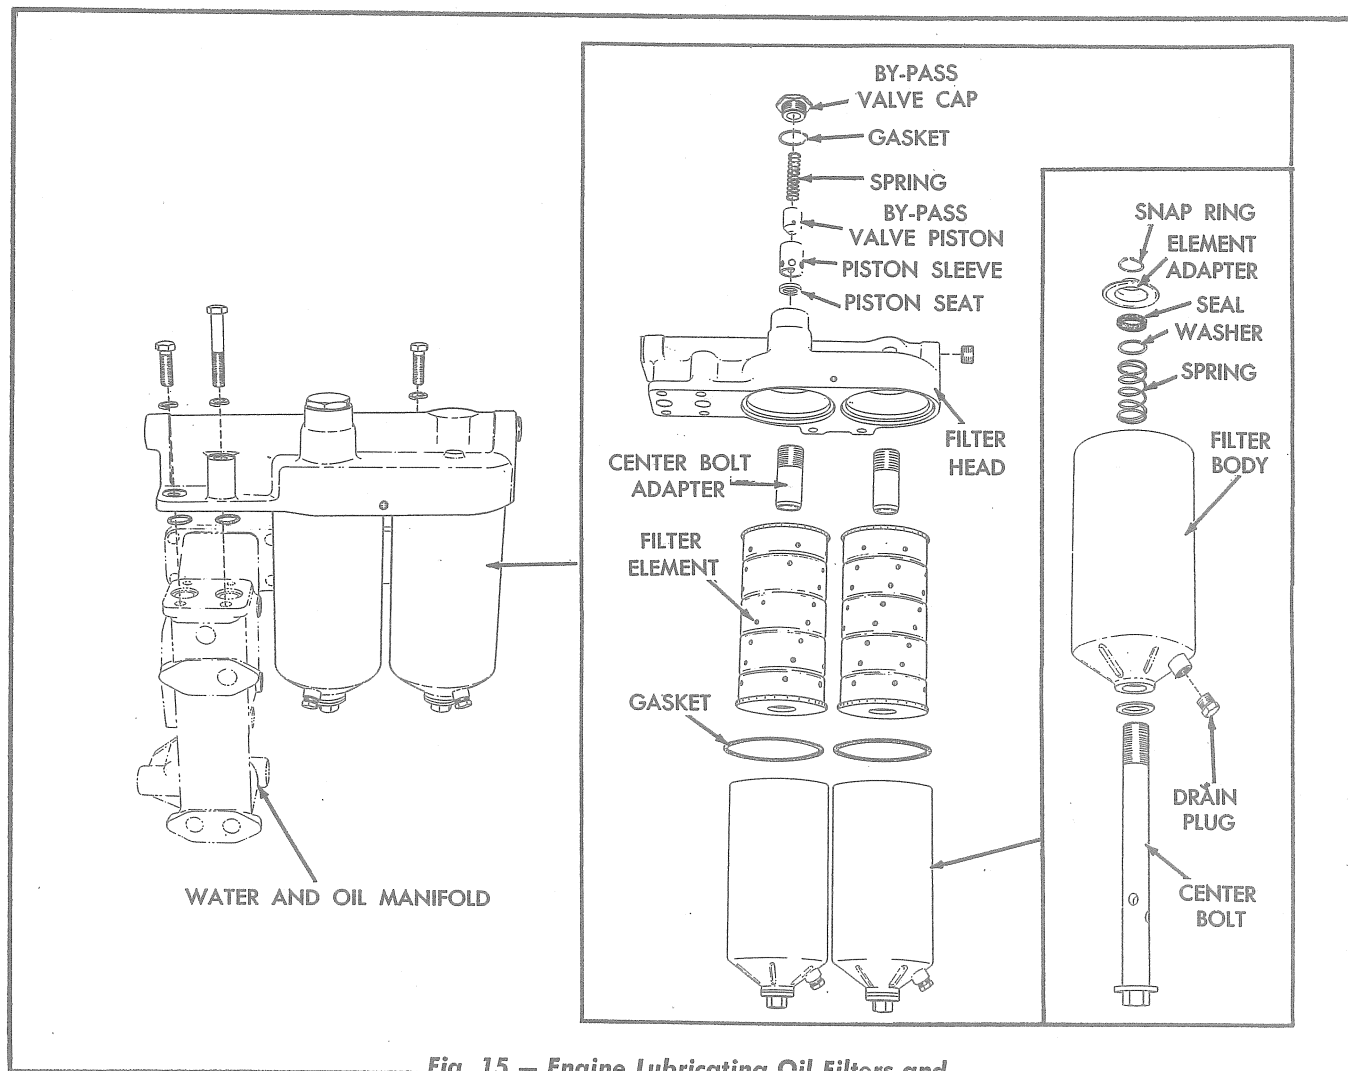

Fig. 15 — Engine Lubricating Oil Filters and By-Pass Valve Assembly Details (Tractors Serial No. 4001 and Above)
2. Tractors Serial No. 4001 and above (Fig. 15).
- ### **2. Removal and installation of engine lubricating oil filters (tractors Serial No. 4001 and above, Fig. 15).**
- c. Install the lubricating oil filter head and oil filters as an assembly by a direct reversal of the removal procedure. **NOTE:** *Make certain the "O"-rings in the top of the water and oil manifold are in good condition and properly installed before securing the oil filter head to the water and oil manifold — refer to Fig. 15.*